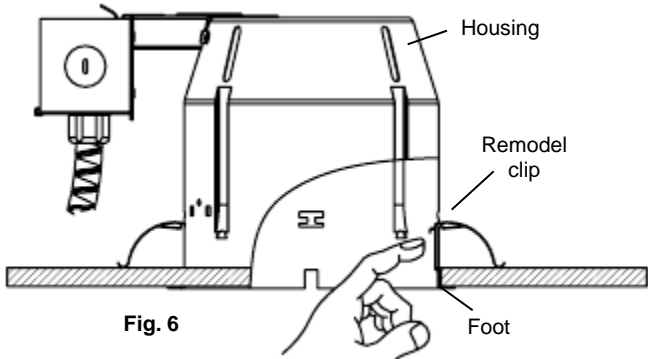

Fig. 6
- Continue pushing the clips through, until they snap into position. The "foot" of each clip will hook the edge of the hole, preventing the housing from sliding further into the hole. (Fig. 6)